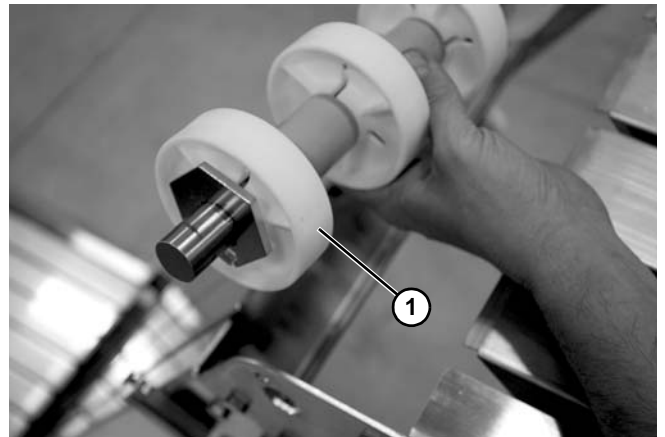

Figure 130
4. Remove upper shaft assembly (**Figure 130, item 1**).